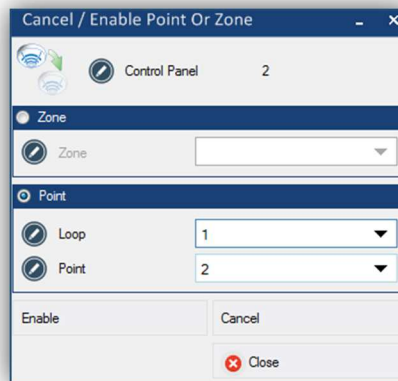

Figure 55. Menu to enable or cancel points or zones of a control panel.
- The menu shown in Figure 55 allows enable/disable zones or points individually. To enter, click on the **Enable/Disable** button .